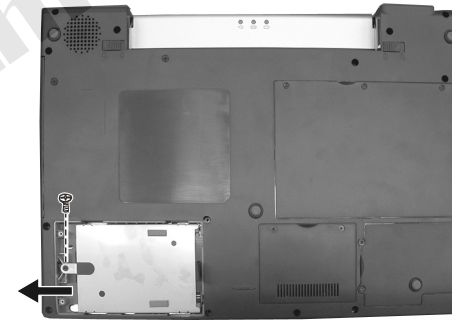

Figure 2-8 Remove HDD module
3. Remove one screw and slide the HDD module out of the compartment. (Figure 2-8)